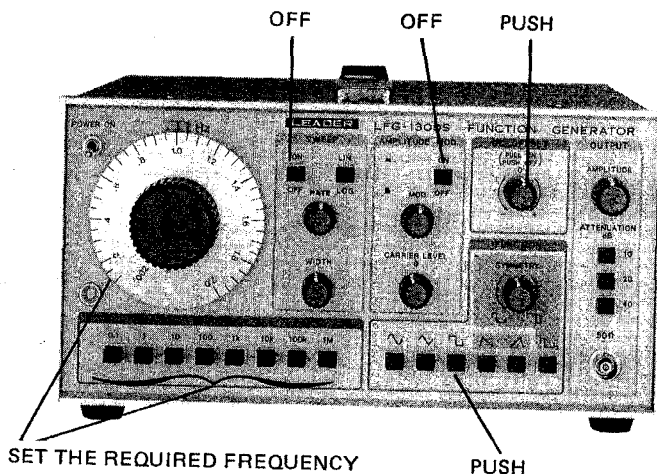

Figure 5-4. Square Wave Operation.
1. Follow paragraph 5-2-1, but depress the square wave push-button. Refer to Fig. 5-4.